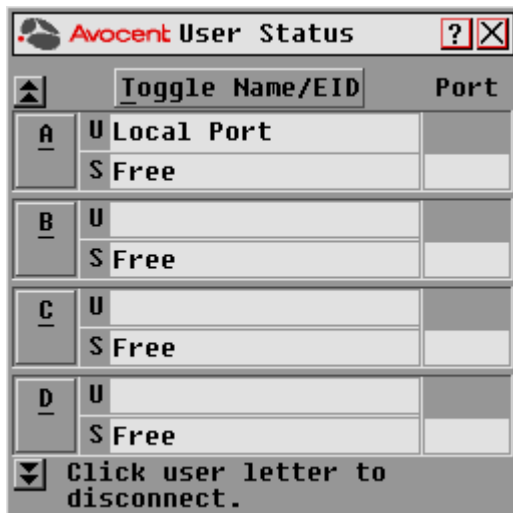

Figure 3.17: OSCAR Interface User Status Dialog Box
2. Click *Commands - User Status* to open the User Status dialog box shown in Figure 3.17 on page 44.
2. Click *Commands - User Status* to open the User Status dialog box shown in Figure 3.17.